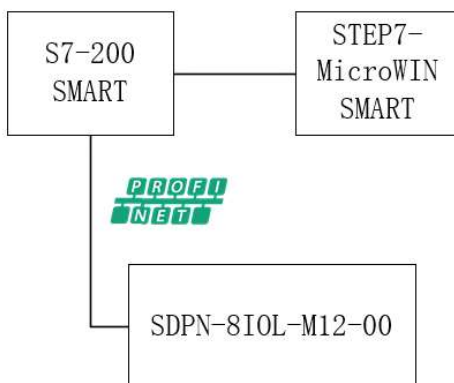

Figure 4-2-2-1 Communication connection diagram
1. The communication connection diagram is shown in Figure 4-2-2-1: